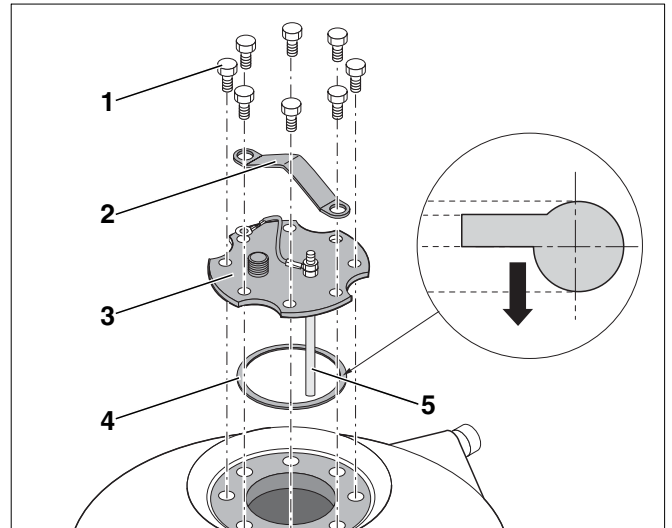

Fig. 20 Inserting top access cover
- After cleaning, we recommend you use a new manual access cover gasket (Fig. 20, **Item 4**) to prevent the DHW tank from leaking.
- Screw in hexagon bolts (Fig. 20, **Item 1**) hand tight in the access port cover and install the transport handle (Fig. 20, **Item 2**).
- Tighten hexagon bolts (Fig. 20, **Item 1**) with a wrench by a three quarter turn (equal to the recommended torque of 40 Nm).